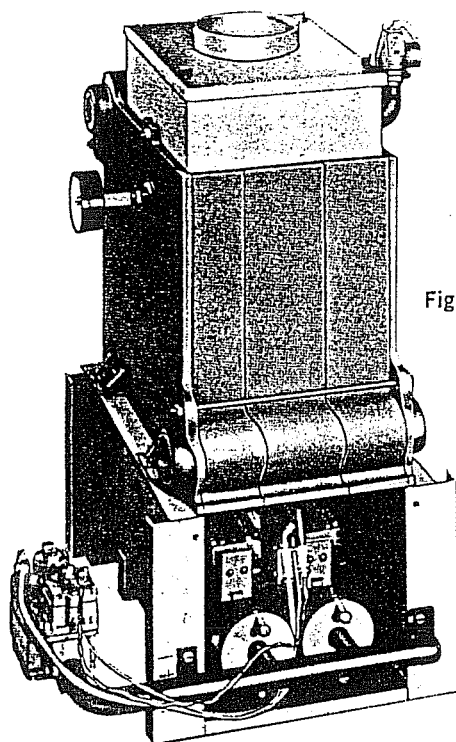

Figure 3
12. Attach Boiler Section Assembly to base using 4— $\frac{1}{4}$ " nuts and flat washers. See Fig. 3.
13. Attach flue collector to top of section assembly using 2— $\frac{1}{4}$ " flat washers and nuts. Seal to boiler with furnace cement. Fig. 3.